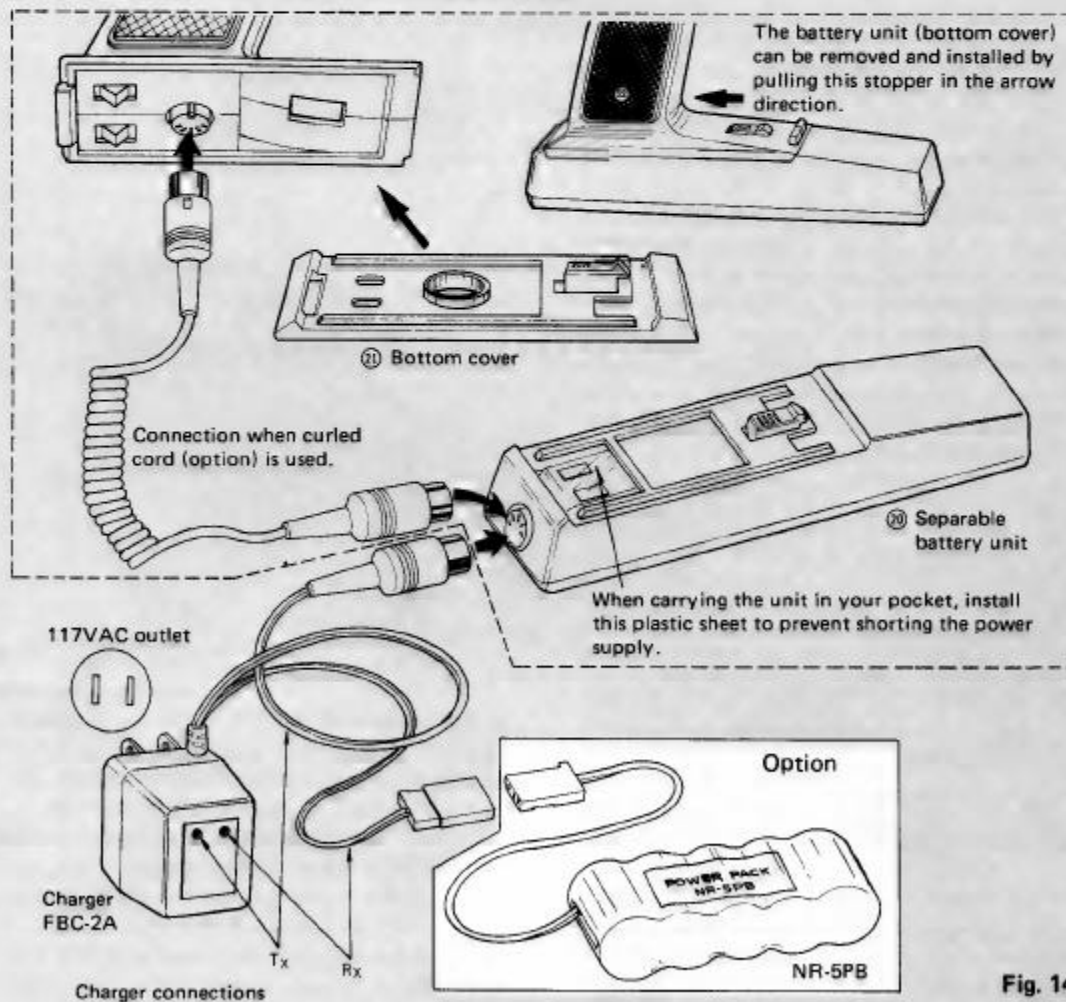

Fig. 14
•The MAGNUM SERIES Nicd battery section and separable battery unit can be mounted and dismounted as shown in Fig. 14. The Nicd battery section and separable battery unit carried in your pocket by remove them from the transmitter, installing the 21 bottom cover, and connecting the optional curled (FTA-2) cord to the battery unit.